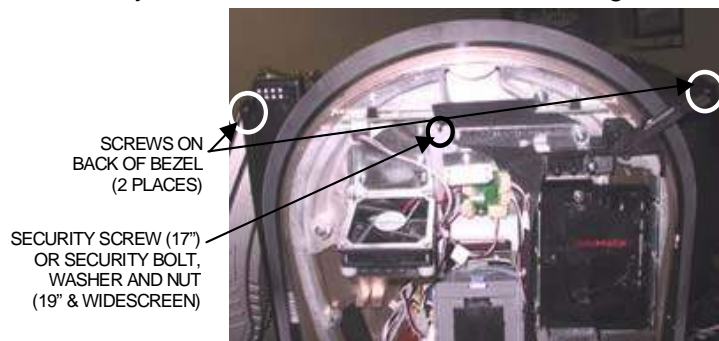

FIGURE 3 - SCREWS ON FRONT AND BACK OF BEZEL
5. Place something in front of the game to brace the bezel once the strain relief cord is undone, then remove the screw at the center of the marquee bezel and the 2 screws on the back of the bezel. For 17" games, remove the security screw inside the CPU section; for 19" and Widescreen games, remove the nut and washer securing the security bolt inside the CPU section. See Figure 3.
10. Close the monitor assembly completely, and fasten with 2 screws in the back of the bezel, 1 security screw (17") or security washer and nut (19" & Widescreen), and 1 screw in the front (through the marquee). See Figure 3.